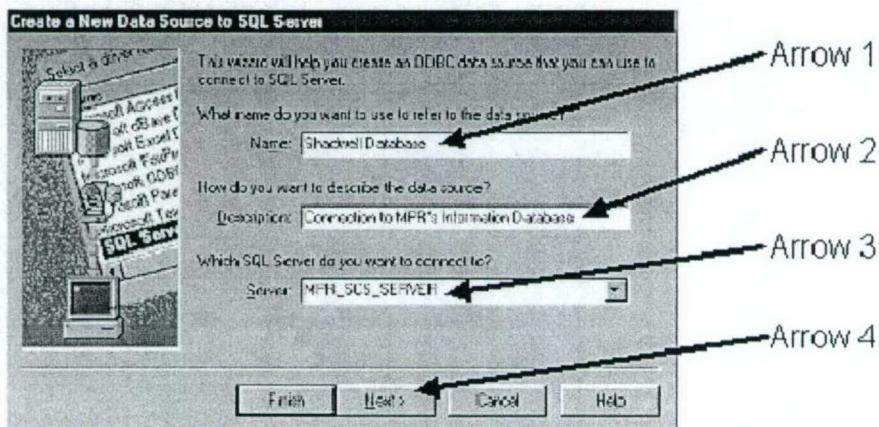

Figure B-3. Create a New Data Source to SQL Server Window (Screen 1)
8. Fill out the name of the data source as “Shadwell Database” (Figure B-3 – Arrow 1).
9. Fill out the description field with a useful description of the data source, such as the text in the description field (Figure B-3 – Arrow 2).
10. Fill the SQL server field with the name of the server computer that contains the database. In this case, enter “MPR_SCS_SERVER” to connect to the SCS Common Database (Figure B-3 – Arrow 3).
11. Click the “Next” button (Figure B-3 – Arrow 4).